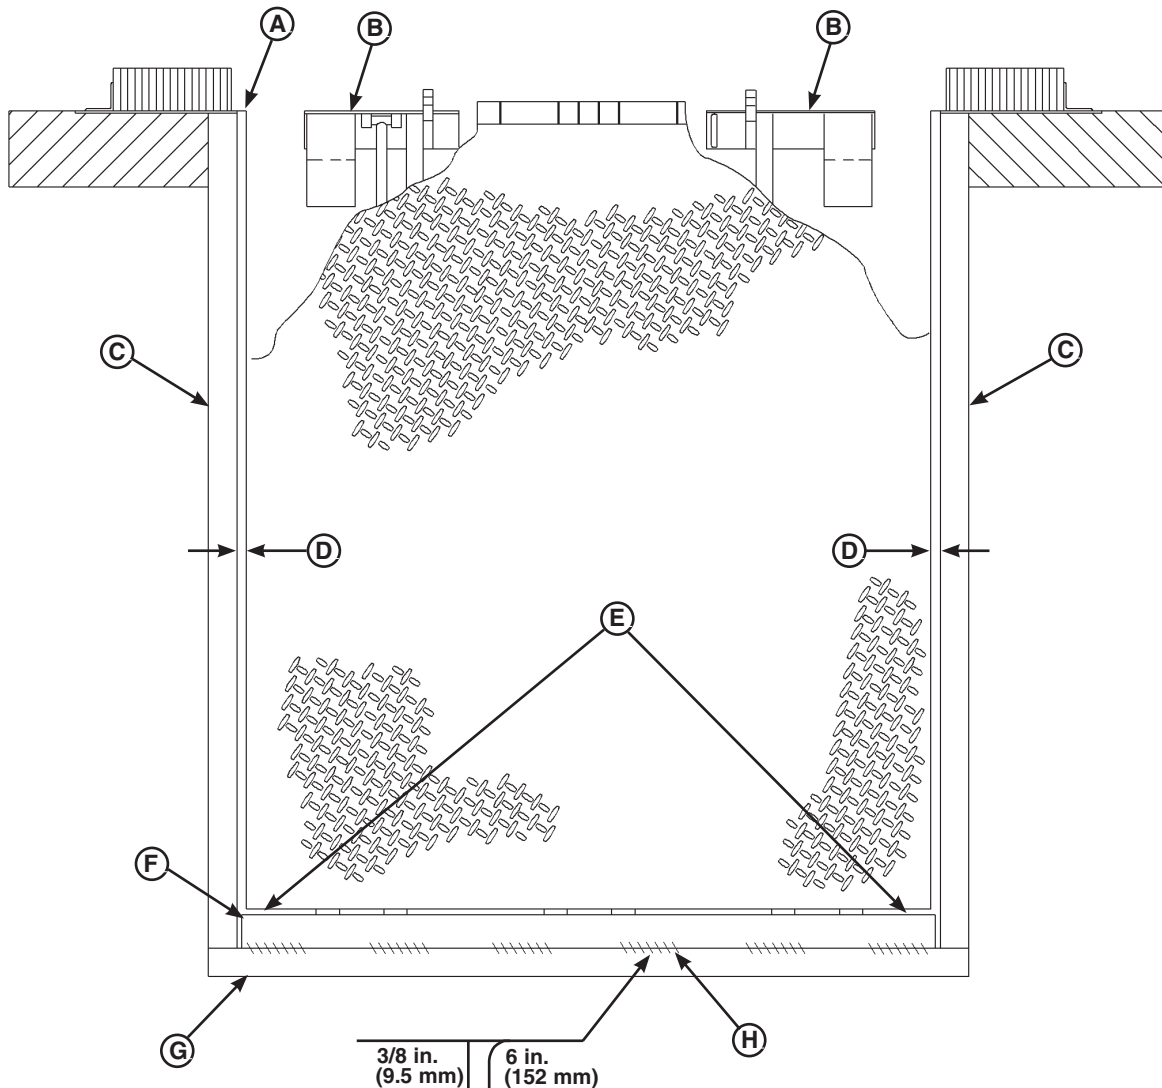

Figure 9
8. With rear hinge frame angle (F) tight against rear pit curb angle (G), perform/check the following (Figure 9):
- Ensure leveler rear edge of platform is parallel to the rear hinge frame angle (F and G) (Figure 9).
- Adjust the gap (D) equally along both sides of leveler so weather seal (if equipped) will not bind during dock leveler operation (Figure 9).
9. If gap (D) cannot be obtained equally at both sides of leveler, grind or add material at the rear edge of rear hinge frame angle (F and G) as needed (Figure 9).
11. Tack weld angle (F) to (G) on each side (Figure 9).
**NOTE:** Figure 9 shows a typical weld pattern. The weld pattern will vary slightly depending on size of dock leveler.
20. With the rear hinge frame angle (F) tight against the rear pit curb angle (G), weld the rear hinge frame angle (F) to the rear pit curb angle (G) using a 3/8 in. (9.5 mm) flare bevel skip weld, each weld being 6 in. (152 mm) long (Figure 9).
23. Weld front of dock leveler frame (B) to shims located under the keepers, then weld the shims to the front pit curb steel (Figure 9).